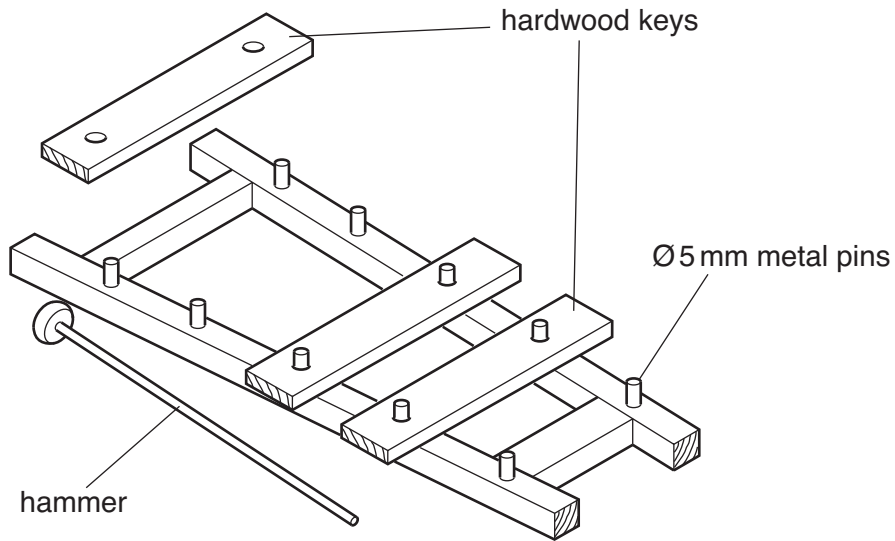

Fig. 2
- 2 Fig. 2 shows an incomplete design for a musical toy. When the keys are hit with the hammer they make a musical note. Not all of the keys have been shown.